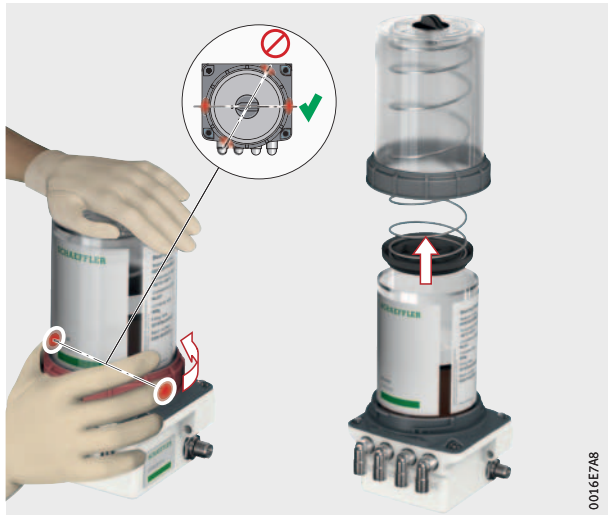

Figure 20
- ▶ To change the grease cartridge, proceed as shown, *Figure 20* and *Figure 6*, page 12 to *Figure 8*, page 14.